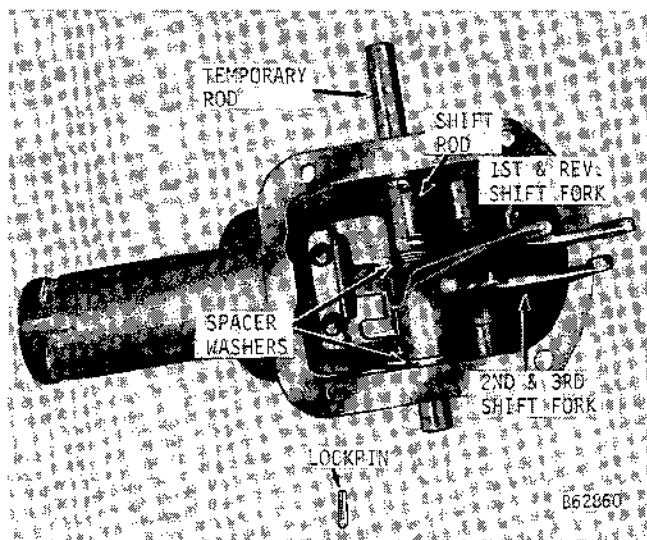

Figure 37 - Installing Shift Rod
2. Install proper spacer washers on either side of the shift fork and slide shift rod part way into case. Position shift rod in case, drive shift rod into shift fork - pushing temporary rod out of fork as you do so, Figure 37.